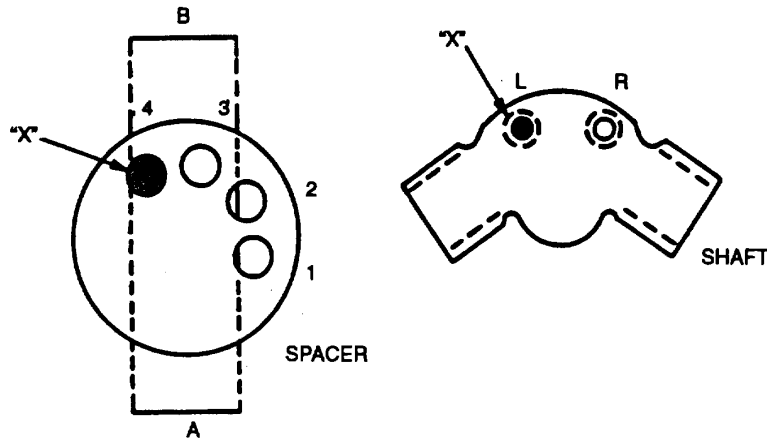

FIGURE 3-82. Alignment of Spacer
FIGURE 3-82 indicates alignment hole for spacer (37) for this application.
- (2) Position spacer (37) on shaft assembly (18) and secure with screw (36) in hole shown on FIGURE 3-82. Install adjusting arm (35), lever (34), spring (33), and retainer (32) on shaft assembly (18) and secure with screw (31).